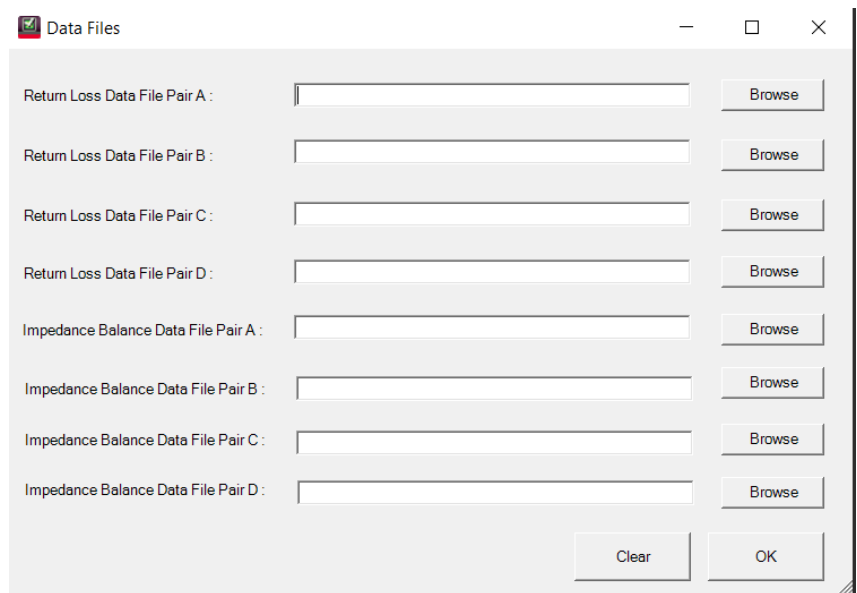

Figure 46 Data File selection pop-up box
- Click the **Edit...** button to access the **Return Loss Data Files** dialog and select the data file for each pair, as shown in Figure 46.